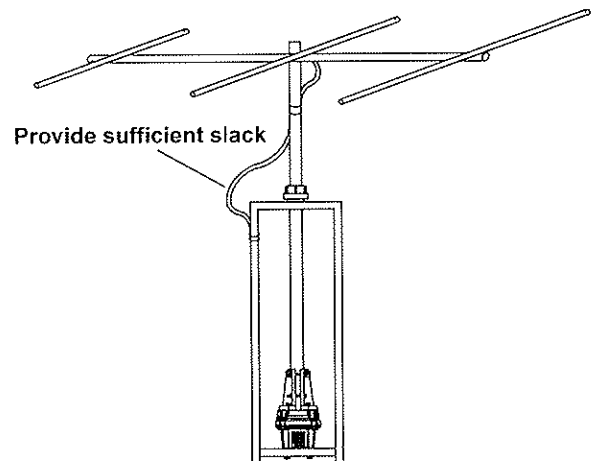

Figure 16
11. Provide sufficient slack in the coaxial cable such that the antenna can rotate over its full 450° range without putting any tension on the coax (see Figure 16). Secure the coax to the tower, using electrical tape and/or UV-resistant cable ties.